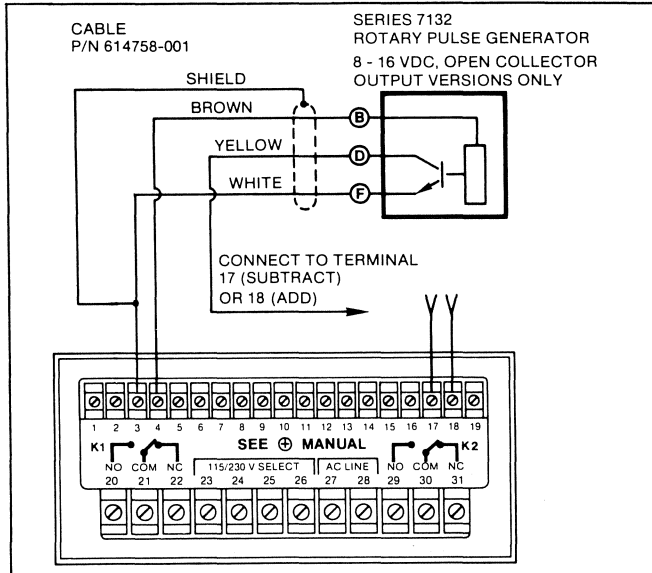

Figure 4-12. Connection of a Veeder-Root Series 7132 Unidirectional Rotary Pulse Generator.
- b. For connection of a Veeder-Root Series 7132 Unidirectional Rotary Pulse Generator, refer to Figure 4-12.